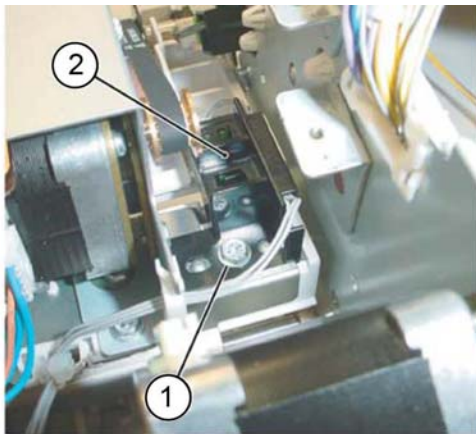

Figure 3 Front tamper home sensor assy removal
8. Remove the front tamper home sensor assembly, **Figure 3**:
- a. Remove the screw (1).
- b. Remove the front tamper home sensor assembly (2).